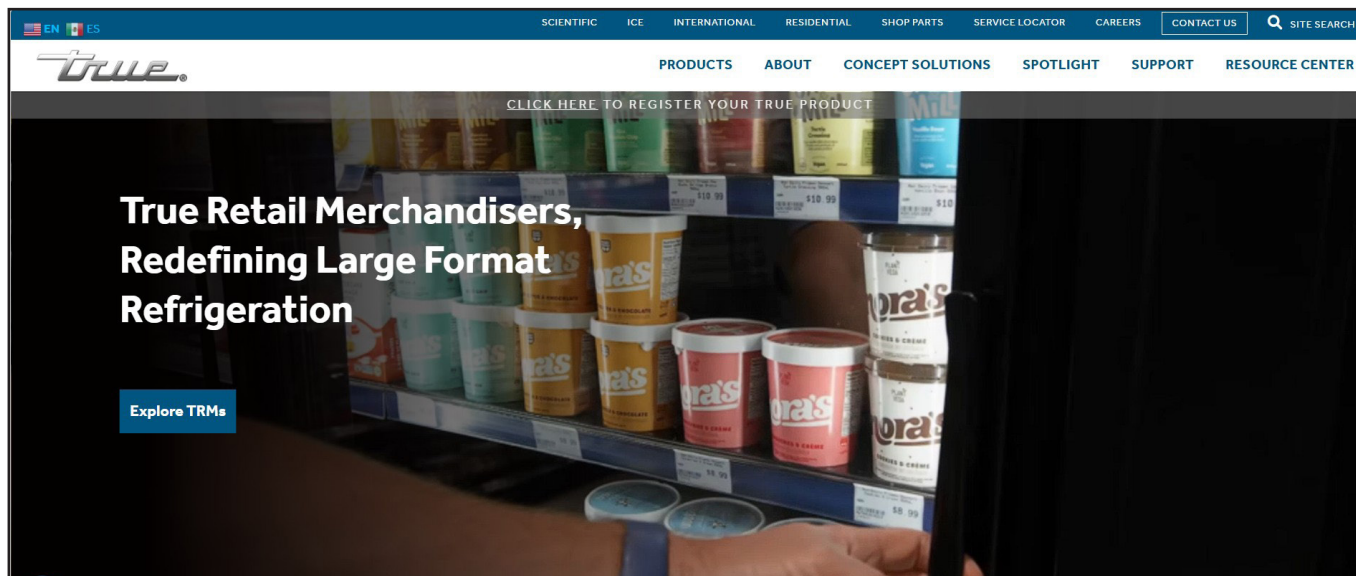

Fig. 2. Visite www.truemfg.com.
2. Visite www.truemfg.com. Consulte la fig. 2.